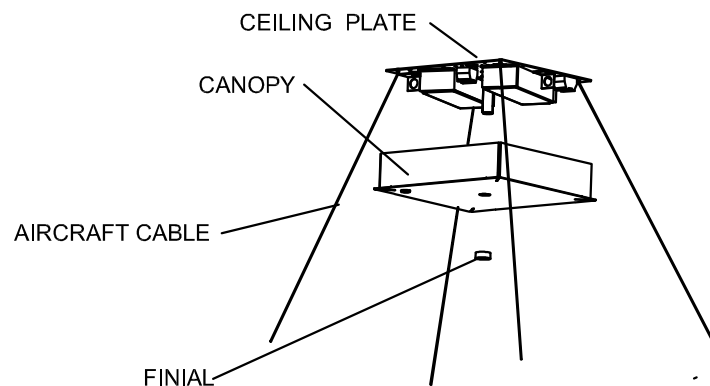

Fig. 2
4. Lift the fixture and attach the loose ends of the Aircraft Cables to the cable gliders -see Fig.2